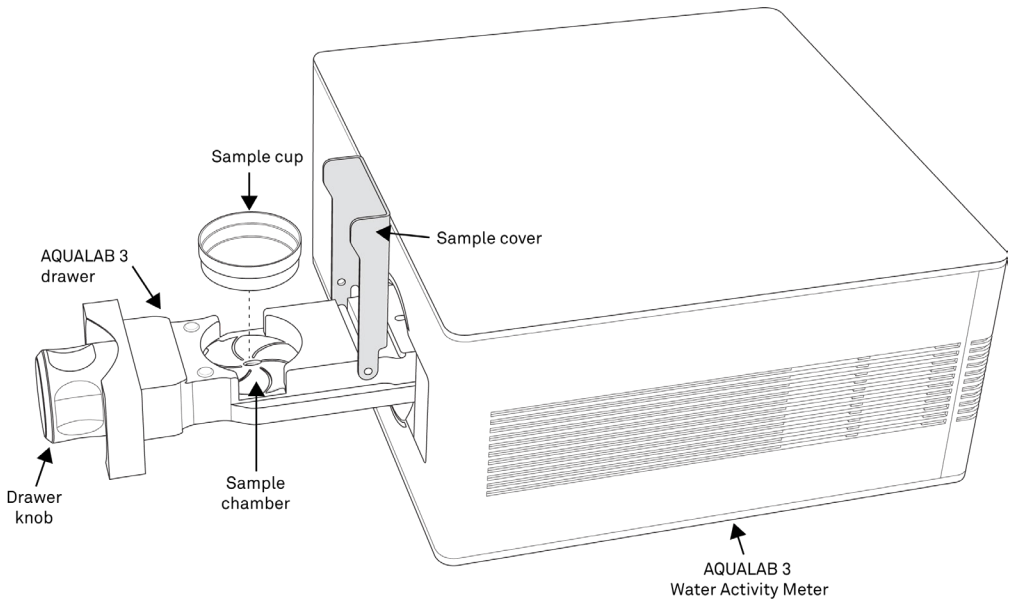

Figure 53 AQUALAB 3 Drawer Pulled Out
9. Insert the sample cup into the AQUALAB 3 sample chamber (Figure 53):